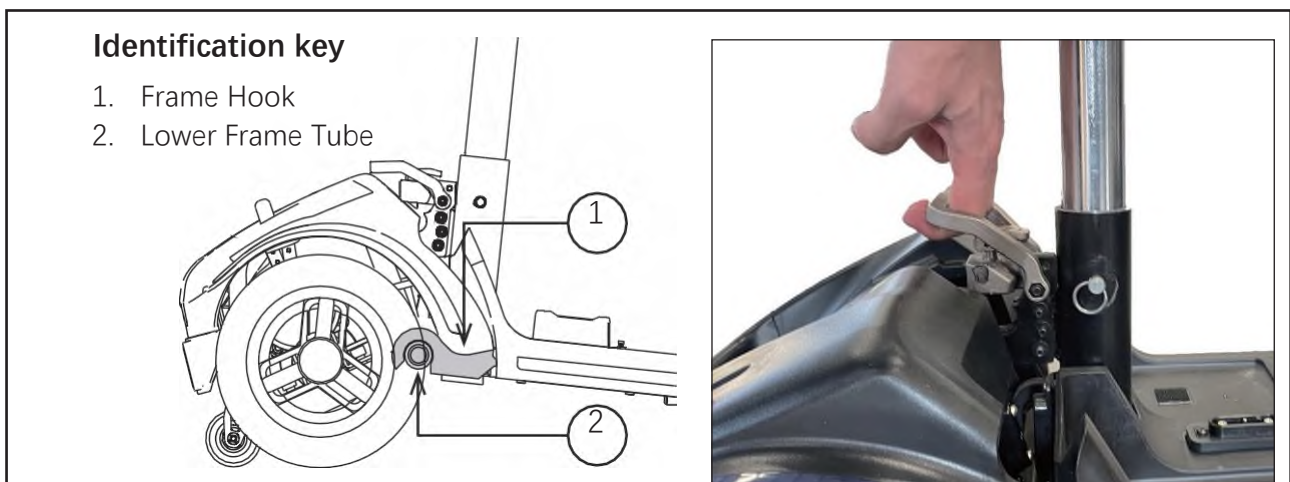

Figure 8. Frame Release Lever
**ATTENTION** – Before attempting assembly, tilt the rear half of the Travel Scooter slightly back on the anti-tip wheels as shown in figure 8.
3. Slowly separate the two parts of the Travel Scooter. See figure 8.
1. Use the front frame release lever to lift the front frame as you align the framehooks of the front frame with the rear frame tube of the rear frame. See figure 8.
2. Once the frame hooks are over the rear frame tube, lower the front frame and pivot the rear frame simultaneously. This will engage the frame lock-up automatically. See figure 8.